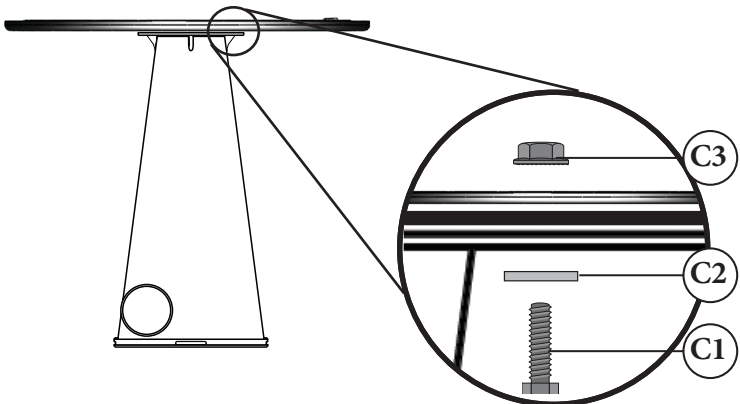

FIG. 2
Turn Cyclone (A) upside-down. Place Gasket (B) on the base of Cyclone (A) and align all the holes. Place the topside of your supplied lid against Gasket (B) and align all the holes. Secure Cyclone (A), Gasket (B) and lid together using six Bolts (C1), six Washers (C2), and six Whiz-Lock Nuts (C3) as shown in [FIG. 2].